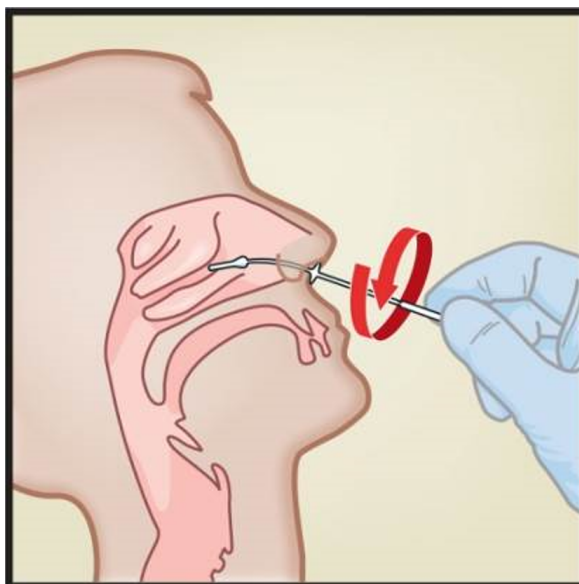

Figure 4. Mid-Turbinate Nasal Swab Specimen Collection
1. Insert the mid-turbinate nasal swab into either nostril, passing it into the mid-turbinate area (see Figure 4).